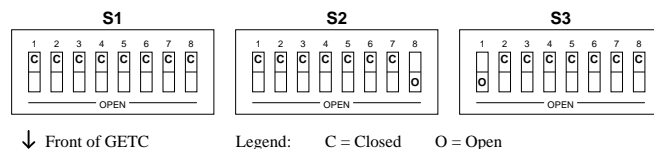

Figure 15 - Test Mode - Low Speed Data / Repeat
- Repeater Gain (RG) 1023
- Compressor Threshold (CT) 32767
- Compressor Gain (CP) 1023
4. Configure the GETC DIP switches as shown in Figure 15. This places the GETC in the test mode continuously keying the transmitter and routing receiver
- Configure the DIP switches as shown in Figure 15. This invokes a test mode on the GETC which keys the transmitter with receiver audio and low speed data from the GETC routed to the transmitter.